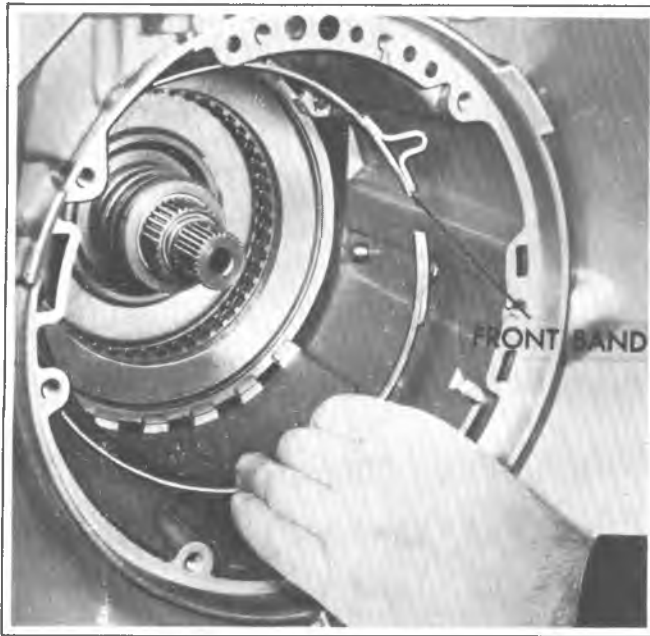

Fig. 7A-35C--Removing Front Band
8. Remove front band assembly (Fig. 7A-35C).